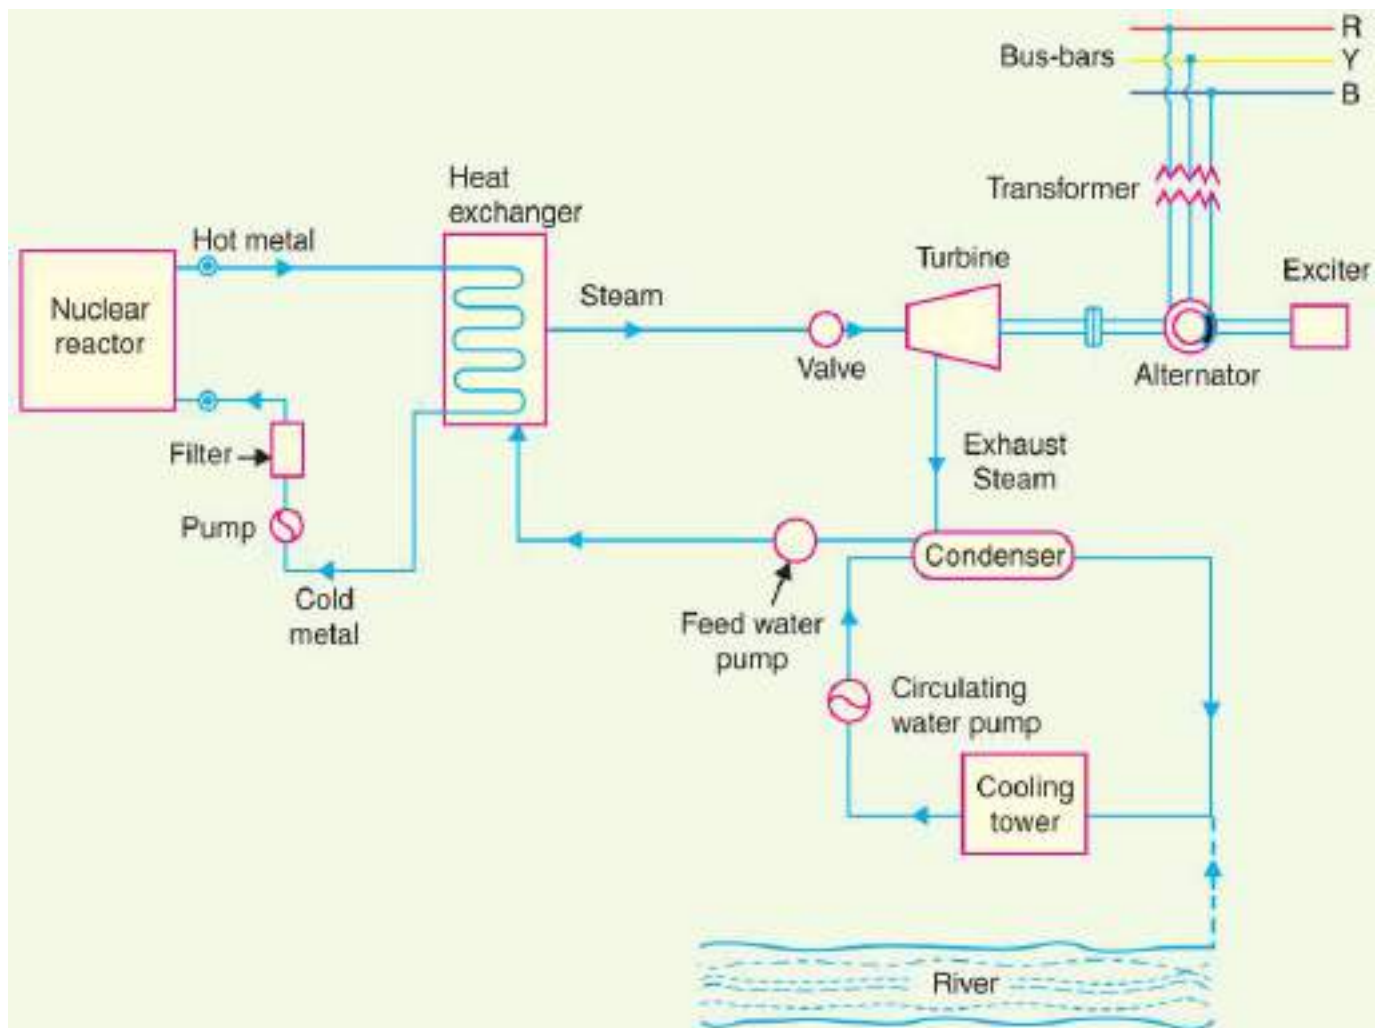

Fig. 6: Nuclear Power Station
- The schematic arrangement of a nuclear power station is shown in Figure 6.